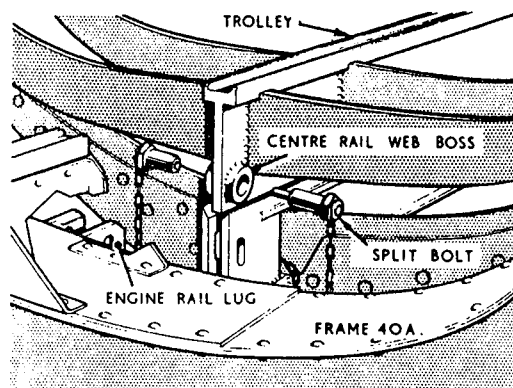

Fig. 15. Engine trolley connection
(10) After disconnecting the items detailed in sub-paras. (1) to (9), centralise the lateral adjustment handles, on the cross members above the axles, of the engine removal trolley. Wheel the trolley up to the aircraft so that the boss on the centre rail web is adjacent to the engine rail lug on the rear face of frame 40A. Screw down the built-in jack at each corner of the trolley and using the lateral adjustment, line up the centre rail web boss on the trolley with the engine rail lug on the aircraft (*fig. 15*).